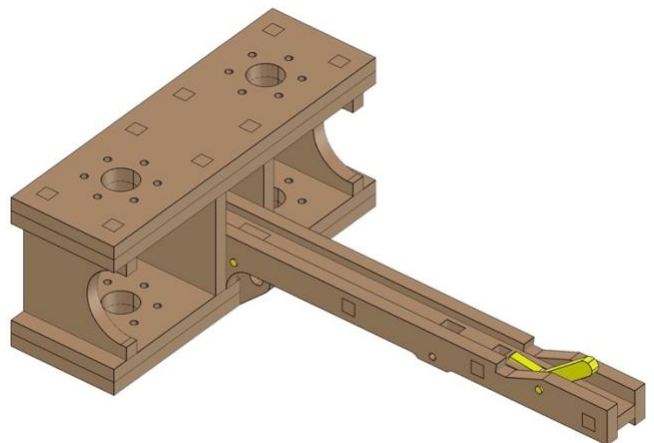

Fig. 24
- *Fig. 24* shows the completed process.